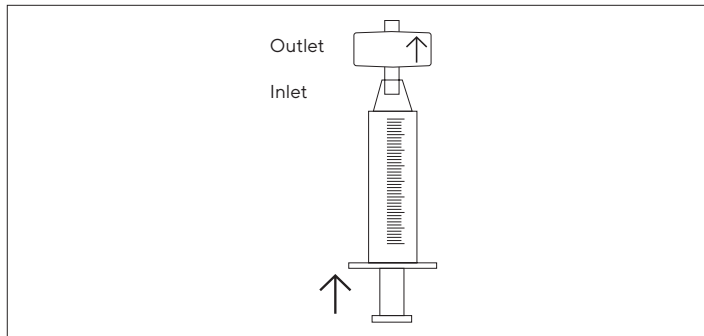

Fig. 7: Filling the Sartobind® Nano with a Luer syringe
- ▶ Fill a 10–20 mL Luer syringe with equilibration buffer and connect to the capsule, then hold capsule upright (outlet is up) and expel air as shown in Fig. 7.